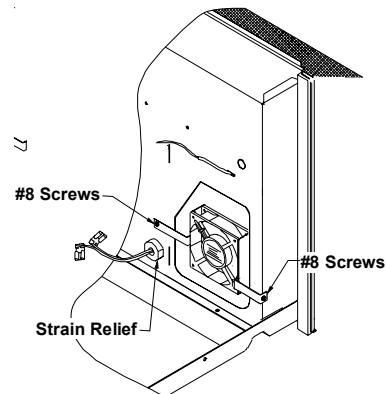

Figure 7
9. Position the vent an into the vent opening while pulling the vent fan wires through the wire hole to take up the slack in the wires (Figure 7).